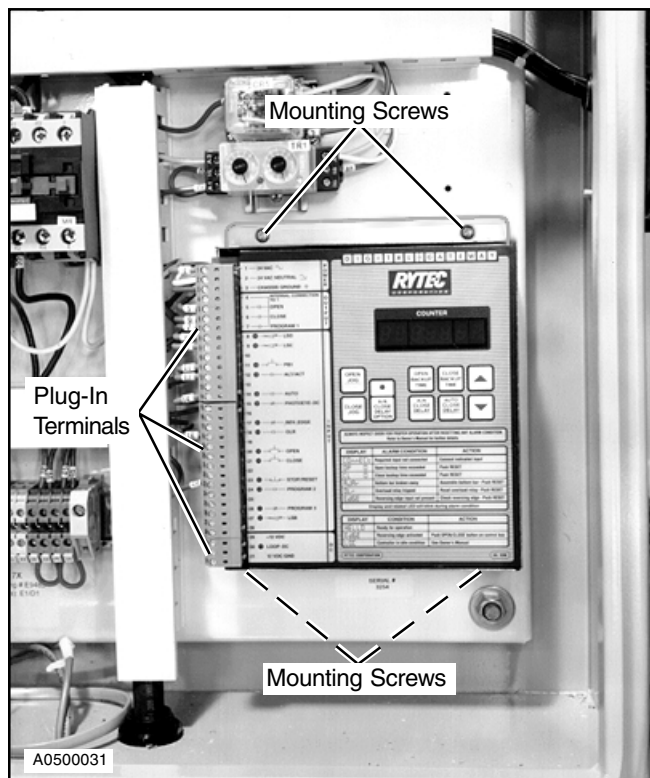

Figure 23
4. Remove the existing Digital Gateway from the control box by removing the four screws that hold it in place. (See Figure 23.)